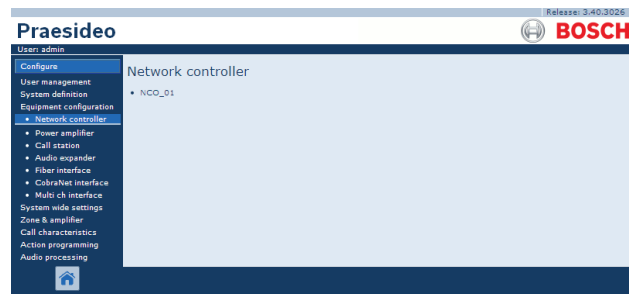

figure 43.2: Configure network controller, step 1
- 1 Go to *Configure > Equipment configuration > Network controller*. A screen similar to the one in figure 43.2 appears in the main frame of the web interface.